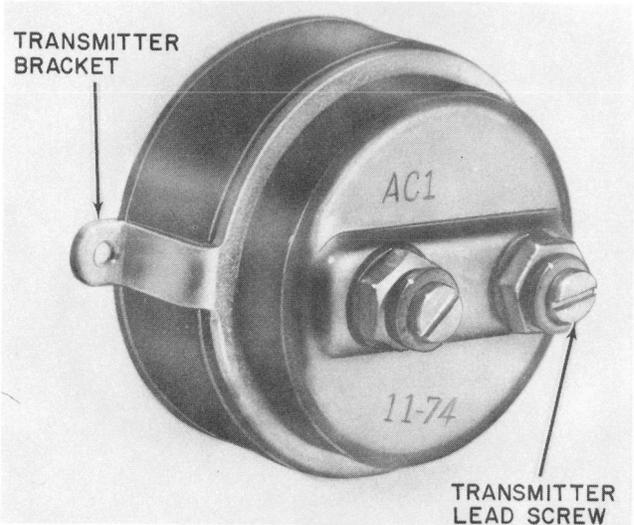

Fig. 22—AC-1 Transmitter and Bracket
4.04 To replace the AC-1 transmitter shown in Figure 22, determine the type of test/talk panel and refer to the appropriate paragraph, 3.02 through 3.06, to determine the means of accessing the internal components. Steps for removal of the AC-1 transmitter follows.
- (1) Remove the two 4-40 by 1/4-inch screws which hold the transmitter bracket (P-12E541) shown in Figure 22 to the test/talk panel.
- (2) Loosen the two transmitter lead screws to remove the lead wires on the transmitter. See Figure 22.
- (3) Remove and replace the AC-1 transmitter.
- (4) Secure the transmitter and bracket to the test/talk panel with the two mounting screws.
- (5) Replace the lead wires.